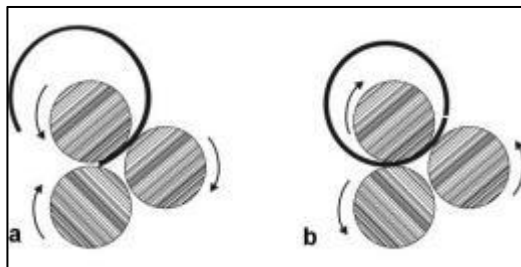

Figure 15
2. Feed workpiece into machine. As it nears the end (a, Figure 15), stop and reverse direction (b, Figure 15).